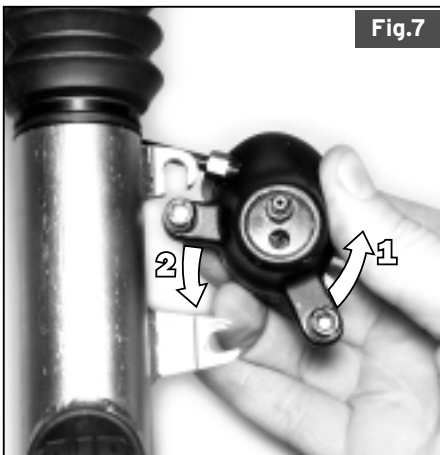

Fig.7
1. Using a 5mm hex wrench, loosen (but don't remove) both front disc brake caliper bolts. Pivot the bottom of the brake caliper counter-clockwise so that the bottom caliper bolt swings out the back of the Lefty's disc brake mount. Then drop the top bolt down out of the disc brake mount. See Fig. 7. The wheel cannot be removed without first removing the brake from the fork.